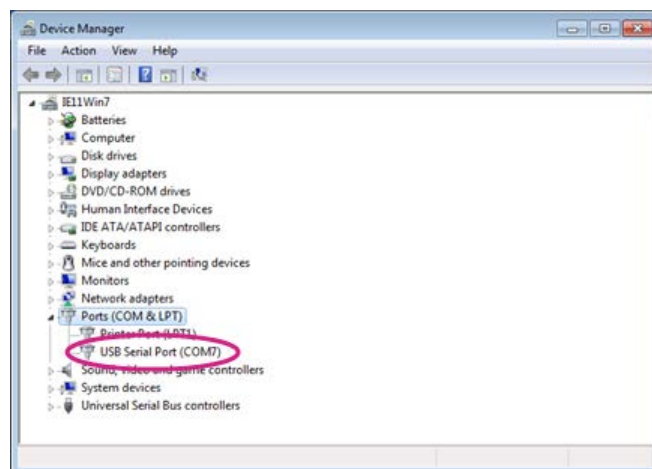

Figure 18 The connected COM port identified in Device Manager
- 2) identify the COM port on which the development board is connected, by opening **Device Manager** from **Control Panel**, see Figure 18.